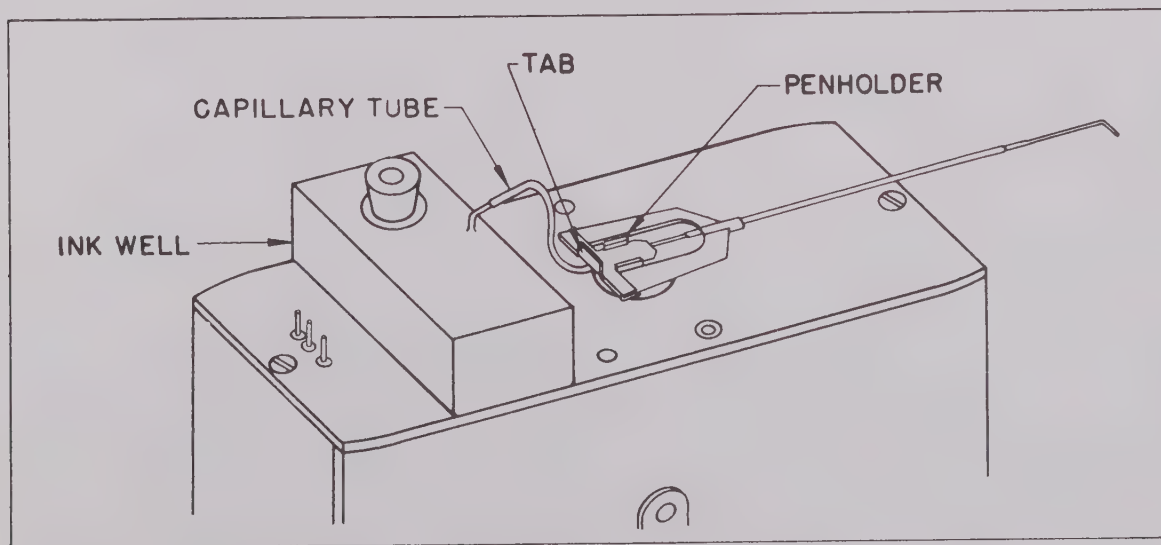

Fig. 5. Diagram of Penmotor and Pen
1. Remove the rubber stopper and by means of a medicine dropper (or the dropper supplied with the 2 oz bottle of Brush ink) fill the inkwell. Fig. 5.
1. Spread the sides of the PENHOLDER (Fig. 5) with the tips of the Pen Mounting Tool (supplied).
3. Align the TONGUE of the PEN with the grooves of the PENHOLDER. Figs. 5 and 6.